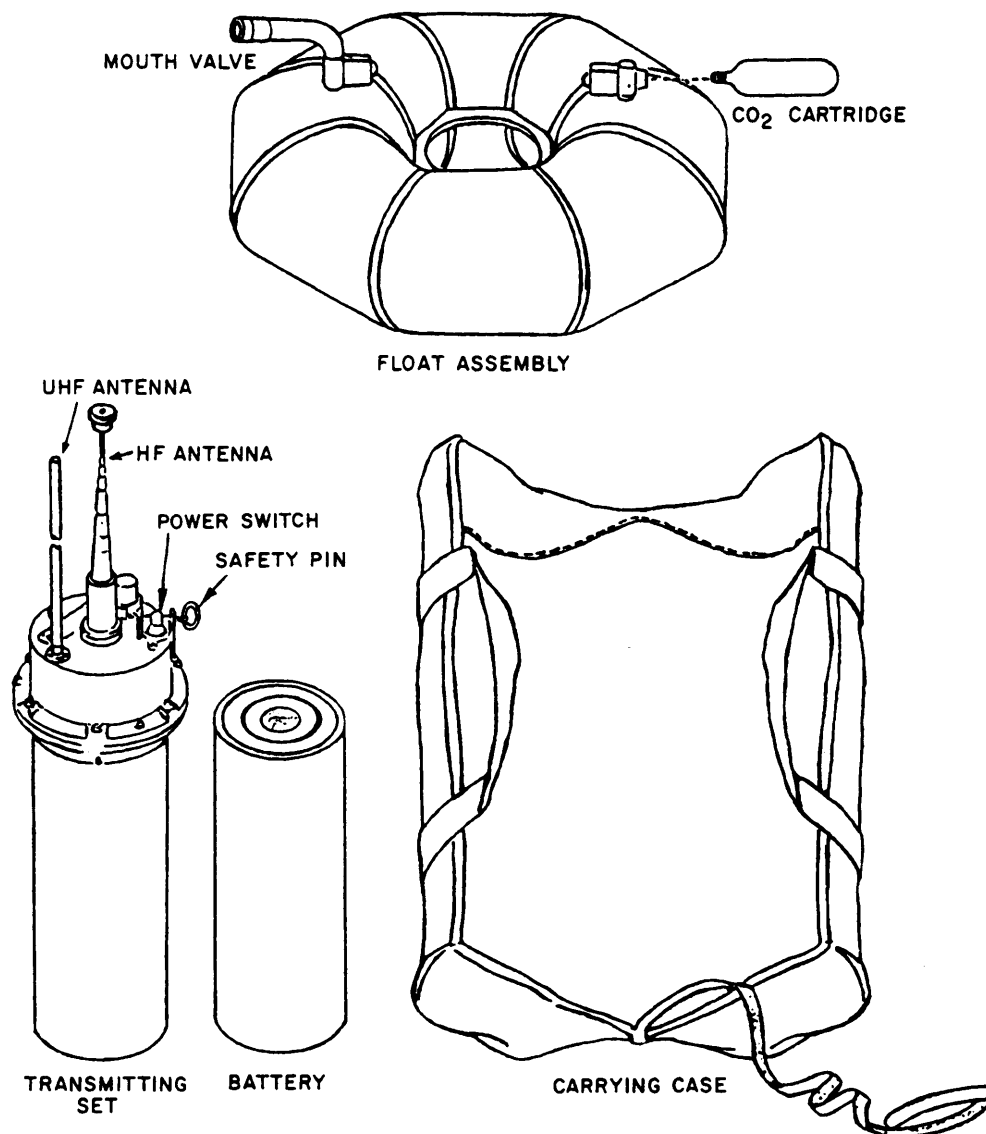

Figure 5-11.—Transmitting set, radio, AN/PRT-5, identification of components.
Transmitting Set, Radio AN/PRT-5 (fig. 5-11) is a battery-operated, emergency beacon
3. Pull out the switch safety pin (fig. 5-11).
4. Turn the POWER toggle switch to ON (fig. 5-11).